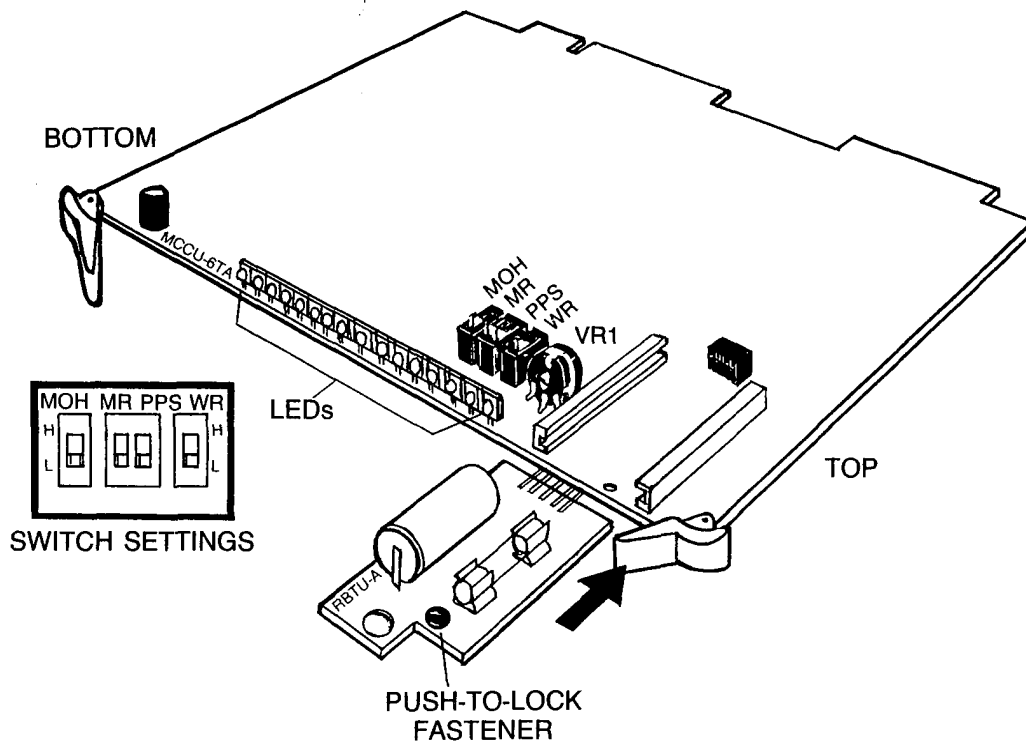

Figure 5-9 MCCU-6TA PCB, EK-616
**5.08** The Main Common Control Unit ( MCCU-6TA ) PCB contains four option switches, guides for a battery PCB, a potentiometer and various LEDs ( Figure 5-9 ). It also contains a music IC chip to provide MOH. If a different music source is desired, then a customer provided music source must be installed and the MOH dip switch on the PCB must be in the H position.
**5.11** The MCCU-6TA PCB is equipped with guides designed for the installation of a battery PCB designated RBTU-A ( Figure 5-9 ). The RBTU-A PCB contains a lithium non-rechargeable battery that protects the programmed memory during a power failure. The fuse on the RBTU-A PCB can be replaced while the system is operational and without removing the MCCU-6TA.
- Press the push-to-lock fastener ( Figure 5-9 ). This action secures RBTU-A to the MCCU-6TA.